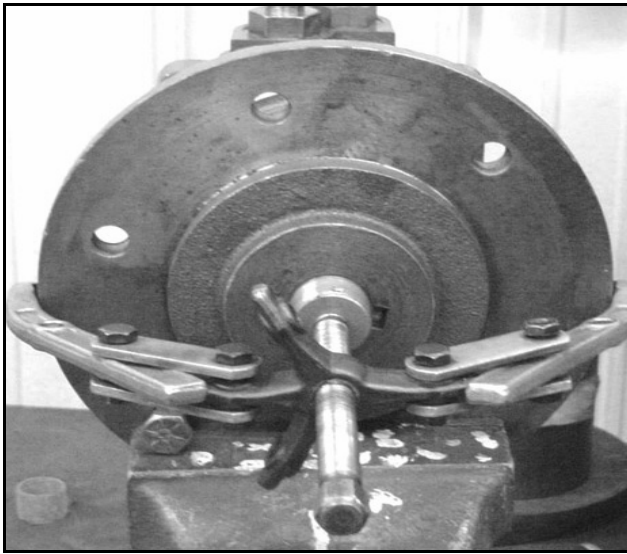

Figure 34.
5. Use a gear puller to remove the hub from the motor as shown in Figure 34.